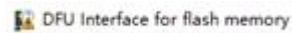

Figure 5-1 Device Manager
- 1) Plug the USB 3.0 cable to device and connect it with a PC host. Bring up the “**device manager**” and check to see whether DFU interface shows up as Figure 5-1.